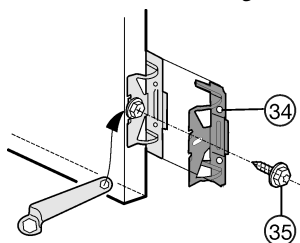

Fig. 16
- Fasten all mounting brackets *Fig. 16 (34)* with hex head screws *Fig. 16 (35)* to the pre-bored holes in the appliance door.